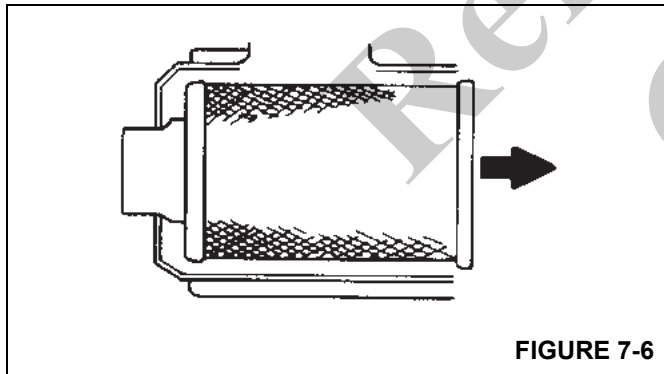

FIGURE 7-6
- b. **AVOID DISLODGING DUST FROM THE FILTER.** Gently pull the filter off the outlet tube and out of the housing. Avoid knocking the filter against the housing (Figure 7-6).